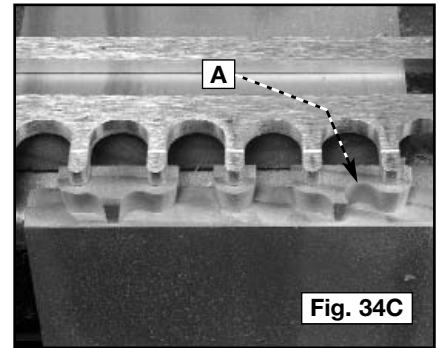

Fig. 34C
**Step 4** - The joint will hide any accidental excess material cut (A) Fig. 34C.